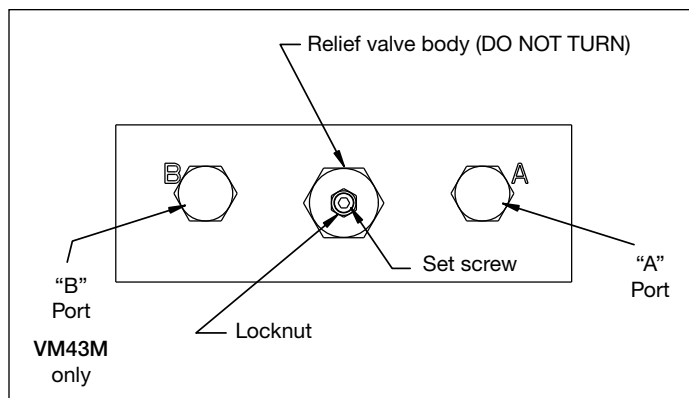

Figure 12, Relief Valve - VM33M and VM43M
1. Install a 0-15,000 psi [0-1,035 bar] gauge in the "A" port (see Figure 12).